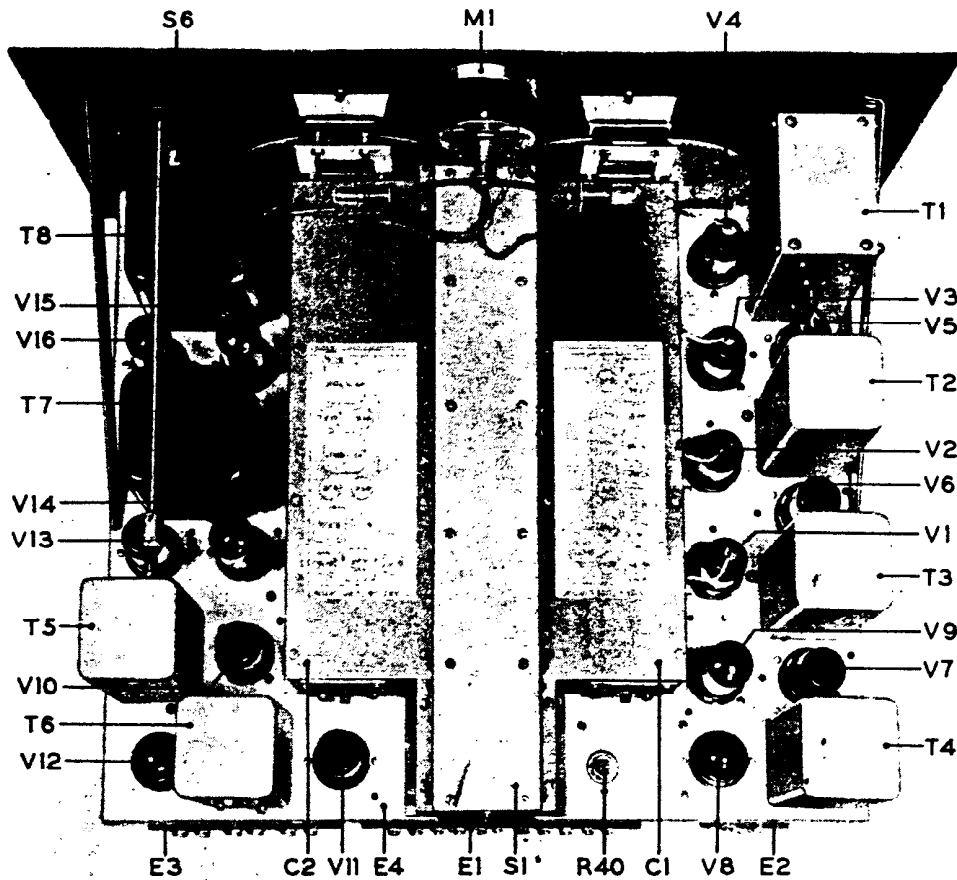

FIG. 7—Top chassis view showing arrangement of components.
The proper location of these tubes is shown in FIG. 7 and on the diagram attached to the top of the tuning unit. Make sure that tubes V1, V2, V3, V4 and V5 have leads connected to their grid caps.
h. *S-Meter Tuning:* The S-meter (M1, FIG. 2), a tuning guide, operates only when the Receiver is set for AVC. Its reading increases as the Receiver approaches resonance with the incoming signal. Exact resonance is shown by the greatest reading of the meter. BAND WIDTH control must be set at 3 for accurate tuning by means of the meter. A screwdriver adjustment (R40, FIG. 7) at the rear of the chassis varies the resistance in shunt with the meter. By means of this adjustment, an "S9" reading may be obtained on any input between approximately 10 and 10,000 microvolts. The normal factory adjustment is made on an input of 50 microvolts, and when so adjusted each "S" number represents a change in signal input of approximately 6 decibels, or a ratio of two-to-one.